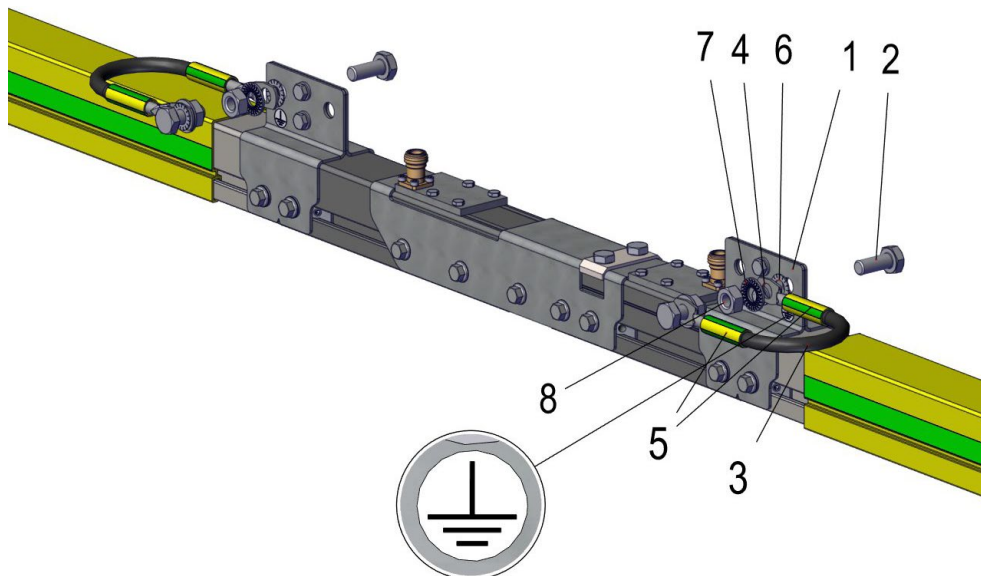

Fig. 47: PE line is connected to the ProfiDAT® profile
The ProfiDAT® profile must be connected to the customer's PE cable at the start of the system. This cable must be a PE cable and thus marked green-yellow (see Fig. 47). The cable cross-section can be determined by the customer; it must be designed at least equal to half the phase current.
- Use a green-yellow grounding cable (minimum cross section 25 mm²) (see Fig. 47).